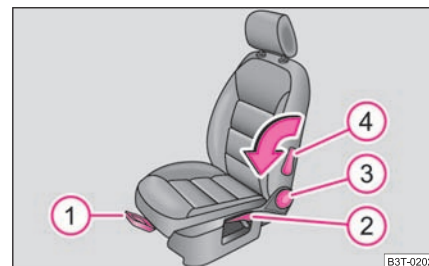

Fig. 62 Controls at seat
- Pull the lever **1** ⇒ fig. 62 up and push the seat into the desired position.
- Relieve any pressure on the backrest (do not lean on it) and turn the handwheel ③ ⇒ page 71, fig. 62 to adjust the desired angle of the backrest.